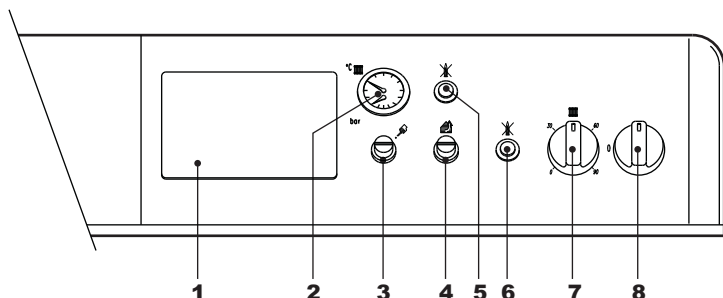

fig. 1 - Control panel
- Turn the boiler switch "8" to 1 (fig. 1).
- If the boiler is equipped with an electronic thermostatic controller fitted in position 1 of fig. 1, the user must also take into account the manufacturer's instructions.
Turn the knob 7 of fig. 1 clockwise to increase the heating water temperature, or anti-clockwise to decrease it. The temperature can be varied from a minimum of 30°C to a maximum of 90°C. However, it is advisable not to operate the boiler below 45°C.
Using the room thermostat, set the required temperature in the rooms. By command of the room thermostat, the boiler lights and brings the system water to the temperature set by boiler adjustment thermostat 7 of fig. 1. The generator turns off when the required temperature in the rooms is reached.
The filling pressure with system cold, read on the boiler water gauge detail 2 of fig. 1, must be approx. 1.0 bar. If, during operation, the system pressure falls (due to the evaporation of gases dissolved in the water) to values below the minimum described above, the user must bring it to the initial value by operating the filling cock. At the end of the operation always close the filling cock.